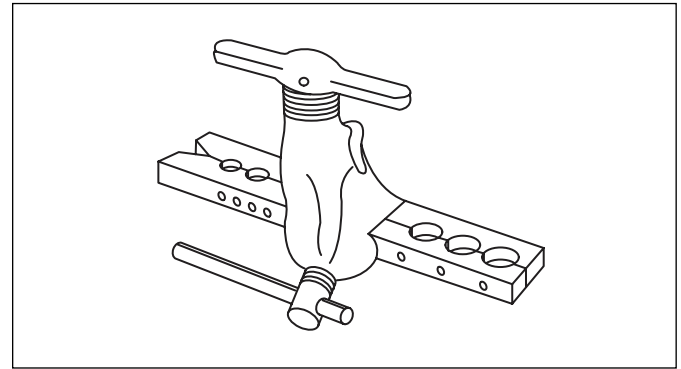

Figure 32
- Align the center of the two pipes that you will connect. See Figure 32.